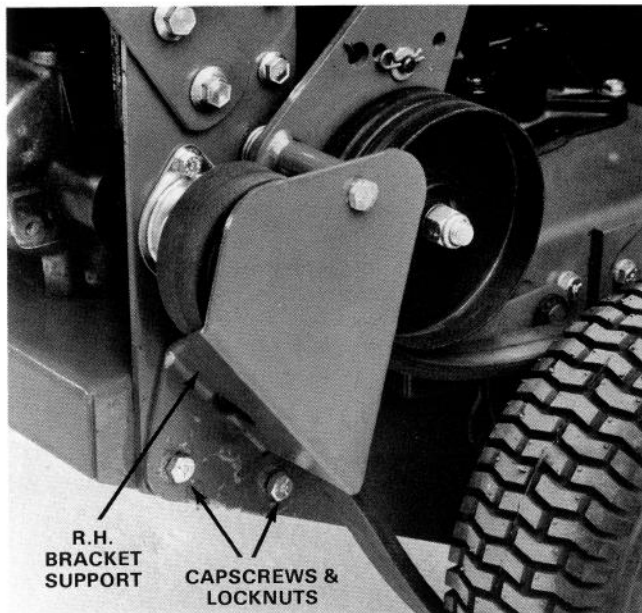

Figure 1
1. Remove (2) capscrews and locknuts securing R.H. bracket support to frame (Fig. 1).